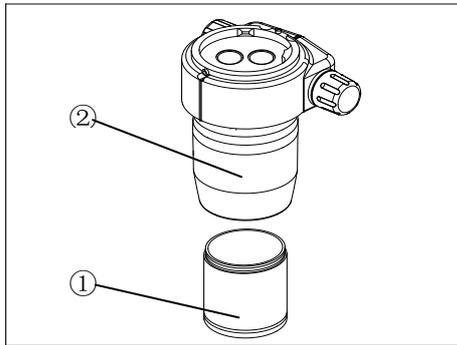
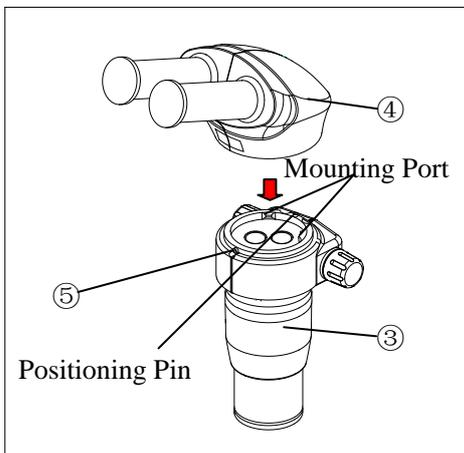

Fig.1
Fig.2
### 2.2.1 Mounting binocular viewing head (Fig.1、 Fig.2)
1. Rotate the objective① into the objective mount thread on the lower end of the zoom body. ② , as ③ in fig.2.
2. Aligning the positioning pin of the zoom body③ to the positioning groove on the binocular viewing head ④, insert the dovetail mount at the bottom of the viewing head into the mounting port on the zoom body ③, and tighten the viewing head clamping screw⑤ with provided hexagonal driver.